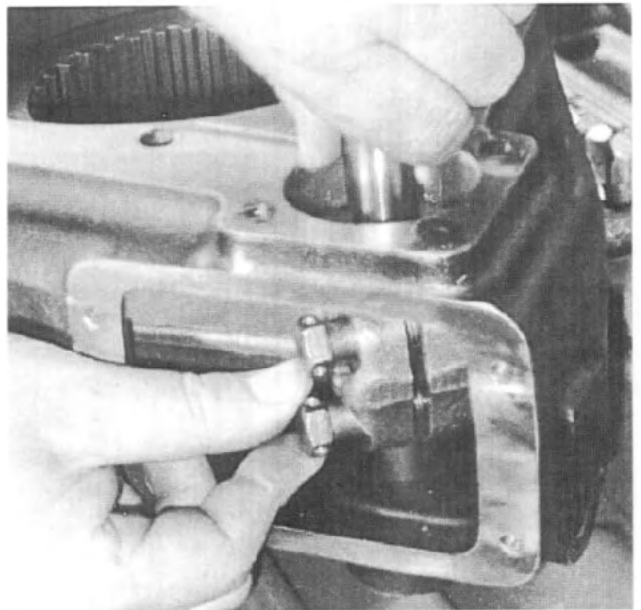

Fig. 78
19. Install the front drive shifter shaft into the declutch housing, attaching it to the front declutch shift fork with two (2) special 7/16-20 bolts. *See Fig. 78.*